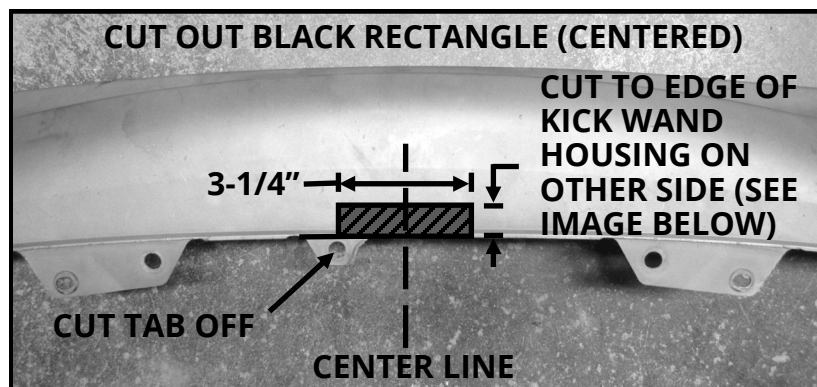

FIGURE A5: VIEW OF REAR FASCIA PARTS
6. The rear fascia (bumper) will need to be modified to allow the receiver to fit underneath the vehicle. With a Dremel tool, use the first image in Figure A5 to measure and cut the rectangle and tab. Next, cut the tab on the kick wand housing as shown in the second image. Smooth the cuts with a file.